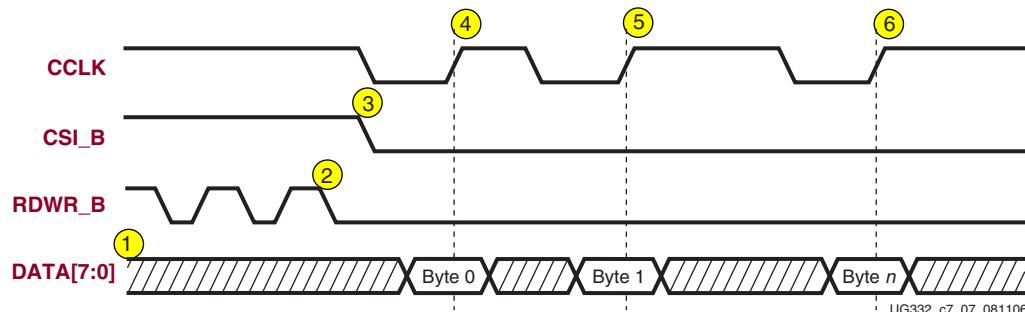

Figure 7-7: Non-Continuous SelectMAP Data Loading with Controlled CCLK
2. Pause **CCLK**, shown in Figure 7-7 and described in “Pausing CCLK,” page 188.
The following numbered items correspond to the markers provided in Figure 7-7.